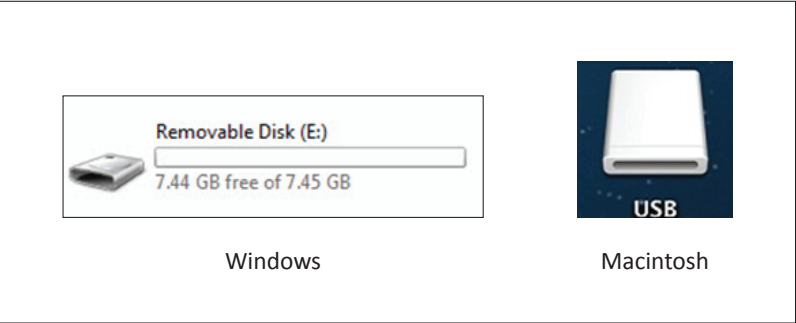

Figure E2. Icons for USB stick.
- 1) Insert an 8 GB USB memory stick into an empty USB slot in your personal computer. **WARNING: All data on the USB stick will be erased during this process!** You should see a new **Removable Disk** under **My Computer** (Windows) or a new **Drive** on your **Desktop** (Macintosh), as shown in figure E2.